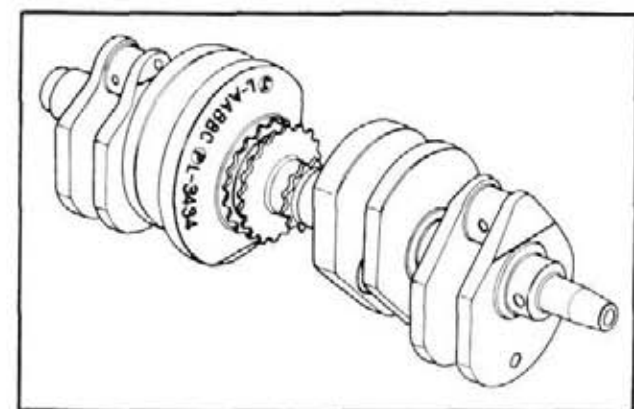

Fig. 3-81
The size marks of crankshaft journals were changed from ㄥ (I) □ (RO) ㄥ (HA) and ㄥ (NI) to A, B and C. These marks are stamped on the side of the crank weight on the drive sprocket side together with the crankpin size marks. (Fig. 3-81)
- Numbers (3, 4, 5) are stamped on the side surface of the crank weight, this indicates the crank pin size. (Fig. 3-81)